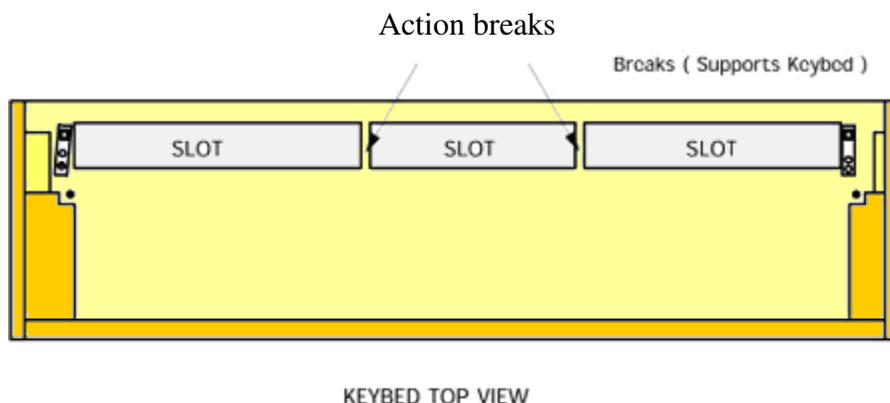

Figure 9.
- F.** At the tenor/treble break we want to preserve as much wood as possible as discussed in Step 4. (See Fig. 9) So, if a long stemmed (white wire) solenoid was planned for at the tenor/treble break, you will want to modify the support tab to conserve the amount of wood removed at the break. (See fig. 10c) Do the same for the other end keys that have long stem solenoids.